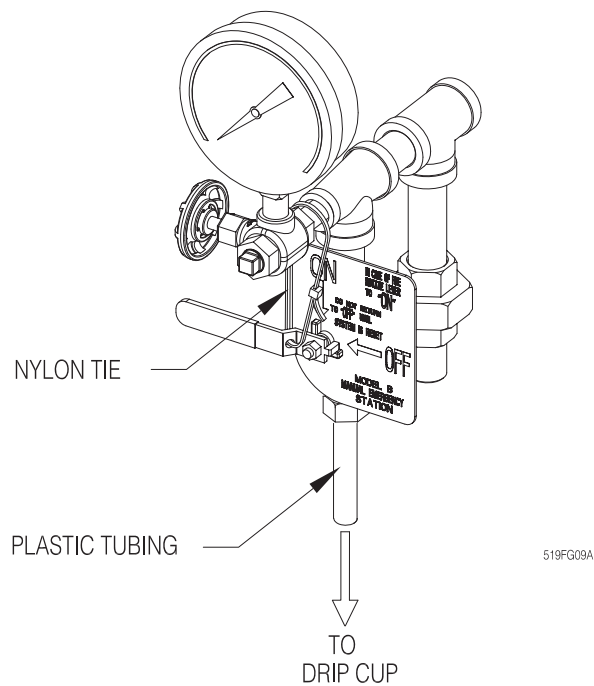

Fig. 12
Wet pilot line single interlock preaction trim operation is a simple method of Deluge Valve Actuation. The trim contains components such as a one and one quarter main drain on 2" (50 mm), 2½" (65 mm), 76 mm and 3" (80 mm) valve sizes or a two inch main drain on 4" (100 mm), 165 mm, 6" (150 mm) and 8" (200 mm) valve sizes, alarm test, supply and push rod chamber pressure gauges, and push rod chamber connections. The wet pilot line consists of a line of closed detectors (Model F1-FTR) located over the area to be protected. This line contains water under pressure and is connected to the outlet of the push rod chamber of the Deluge Valve. When one of the pilot line detectors actuates, the push rod chamber is vented and the Deluge Valve operates. The Deluge Valve can also be operated manually by opening the ball valve of the Model B Hydraulic Manual Emergency Station (see Fig. 12) or the optional Model A Hydraulic Manual Emergency Pull Box (see Reliable Bulletin 506).
13. Verify that the Model B Manual Emergency Station, valve D (Fig. 15) is secured in the OFF position with the appropriate nylon tie (#57, Fig. 7 or #57, Fig. 8) see Fig. 12.
10. Secure the Model B Manual Emergency Station, valve D (Fig. 15), in the OFF position with nylon tie after Deluge Valve is reset (see Fig. 12).